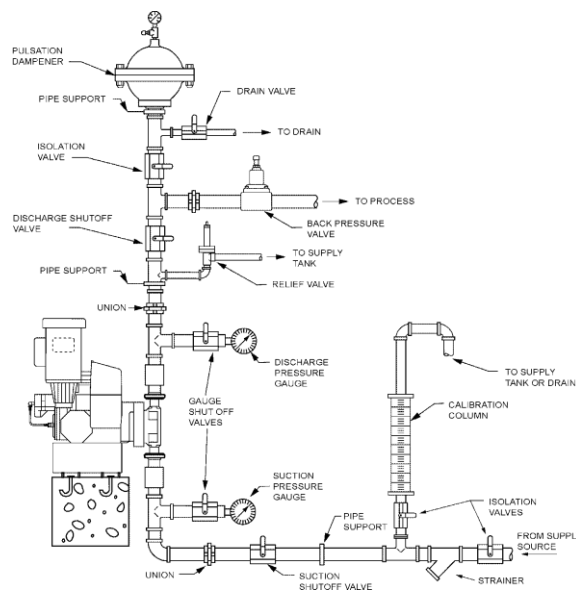

Figure 1 – Typical Installation
2. Calibration is an important element of successful DLC operation. Permanent installation of a calibration column as depicted in **Figure 1** is strongly recommended.